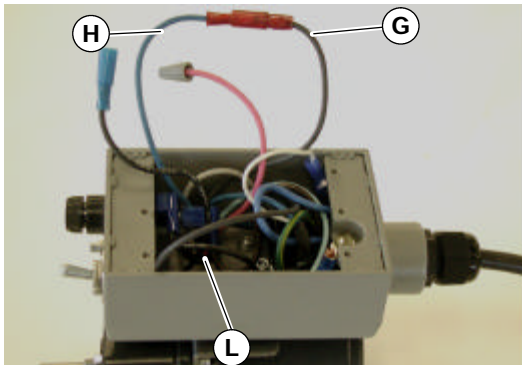
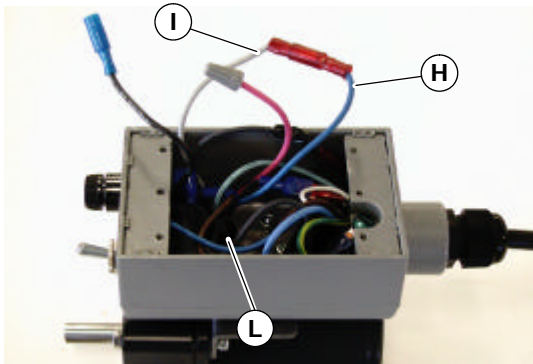

Figure 13
Figure 14
**10.** Locate dark blue wire (H of Figure 13) passing through motor grommet (L). If the dark blue wire (H) is connected to the black wire (G), proceed to step 11a. If the dark blue wire (H of Figure 14) is connected to the gray wire (I), proceed to step 11b.